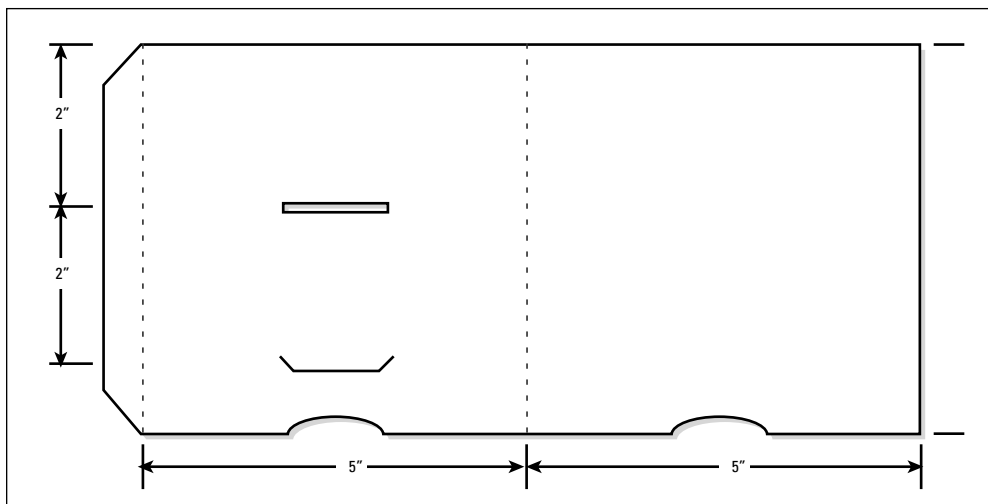

Figure 8-17:
1. Copy the template from Figure 8-17 onto a sheet of white card.